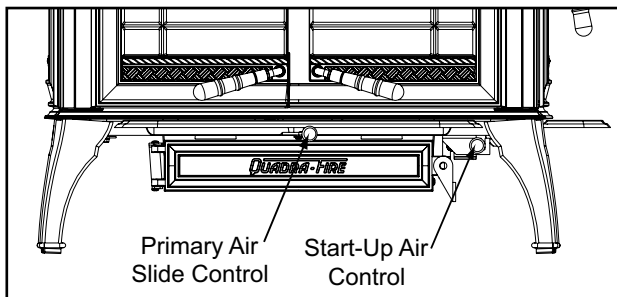

Figure 21A
The air control to the right of the stove is called the Start-Up Air Control; it is used during the kindling stage of burning. It must be closed (pulled out) after the first 5 to 15 minutes. **Figure 21A.**
The next stage of burning, the secondary stage, is the period when the wood gives off flammable gases which burn above the fuel with bright flames. During this stage of burning it is very important that the flames be maintained and not allowed to go out. This will ensure the cleanest possible fire. If you are adjusting your stove for a low burn rate, you should close down the air to the point where you can still maintain some flame. If the flames tend to go out, the stove is set too low for your burning conditions. The air slide control under the ash catcher is the one used to adjust the stove for burn rates. This is called the Primary Air Slide Control. **Figure 21A.**
2. Regulate burn rate (heat output) by using the Primary Air Slide Control (center under ashcatcher). The Start-Up Air Control (on the right) is used for initial start-up and reloading. Refer to **Figure 21A on page 21**.